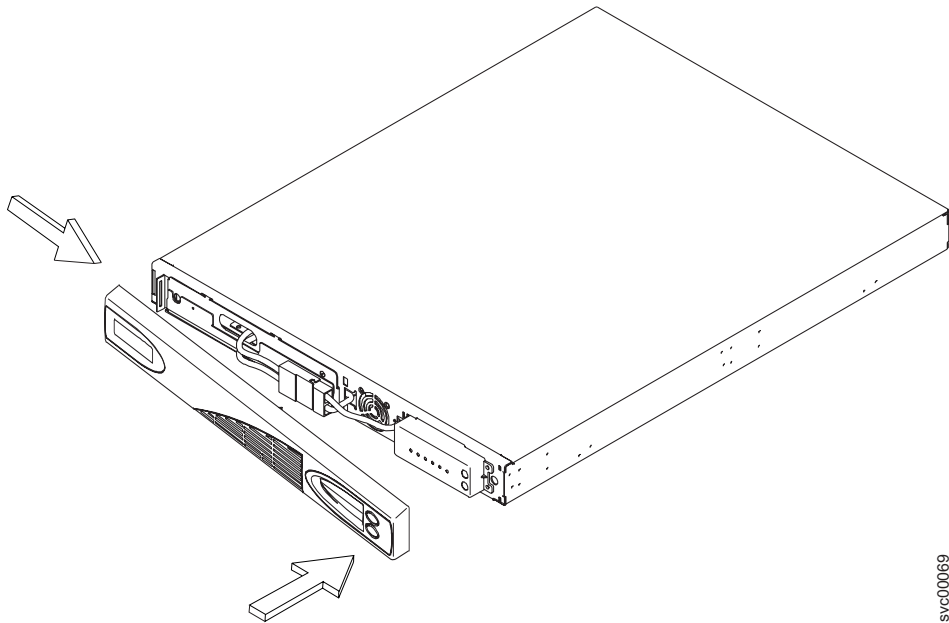

Figure 226. Replacing the 2145 UPS-1U front panel
3. Connect the internal battery connector, as shown in Figure 226 on page 500. Each end of the keyed connector has two wires: one red (+) and one black (-). Join the black wires and the red wires together.
4. Push the front panel to the right to catch on the left end of the panel. Push the front panel forward until the panel snaps into the right and middle sections of the 2145 UPS-1U, as shown in Figure 226.